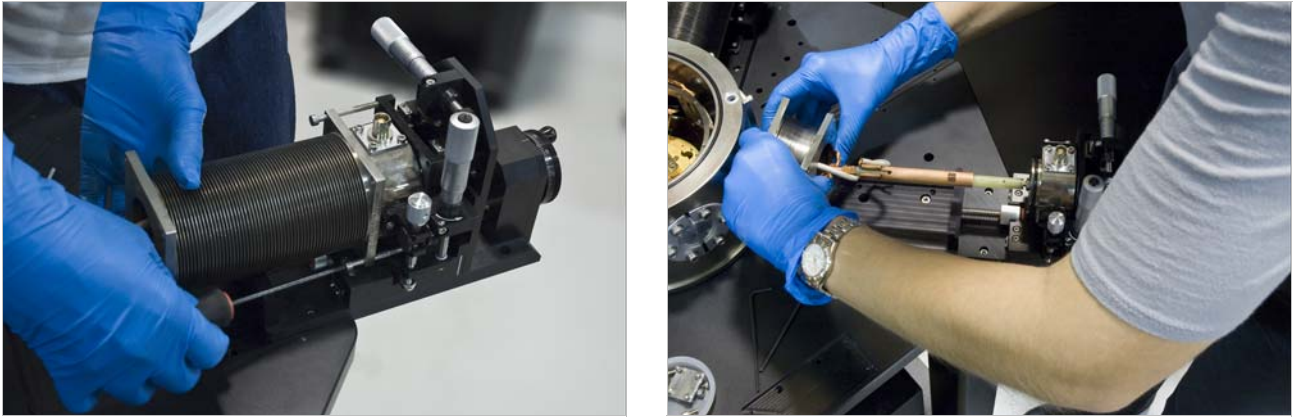

FIGURE 5-12 *Left: Remove the four horizontal screws that attach the bellows to the z-axis stage; Right: Compress the bellows to remove it from the probe arm*
- Using a 3 mm hex driver, loosen and remove the four long M4 horizontal screws that attach the bellows to the z-axis stage (FIGURE 5-12).
- Compress the bellows to make room to slide it carefully off the probe arm. When you reach the end of the probe arm, you will need to tilt it up to remove it from the probe arm (FIGURE 5-12). Place the bellows on a clean, lint-free cloth or wipe.